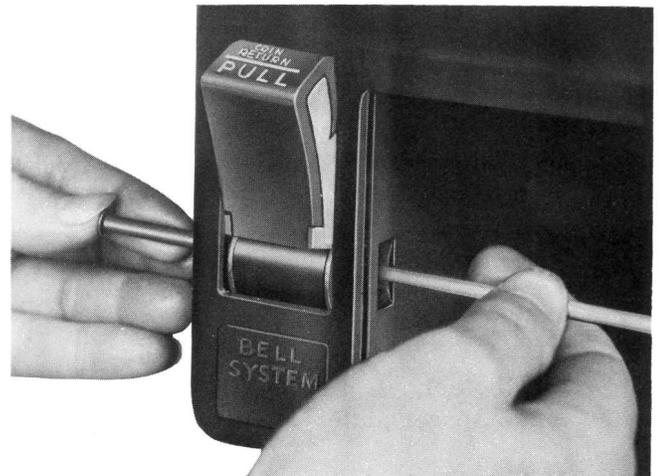

Fig. 25 — Inserting Shaft in Housing
- (5) Use orange stick or equivalent to line up holes in pull bucket and housing.
- (6) Insert P-27E462 stainless steel shaft in housing and force fit using hammer and drive punch (Fig. 25).